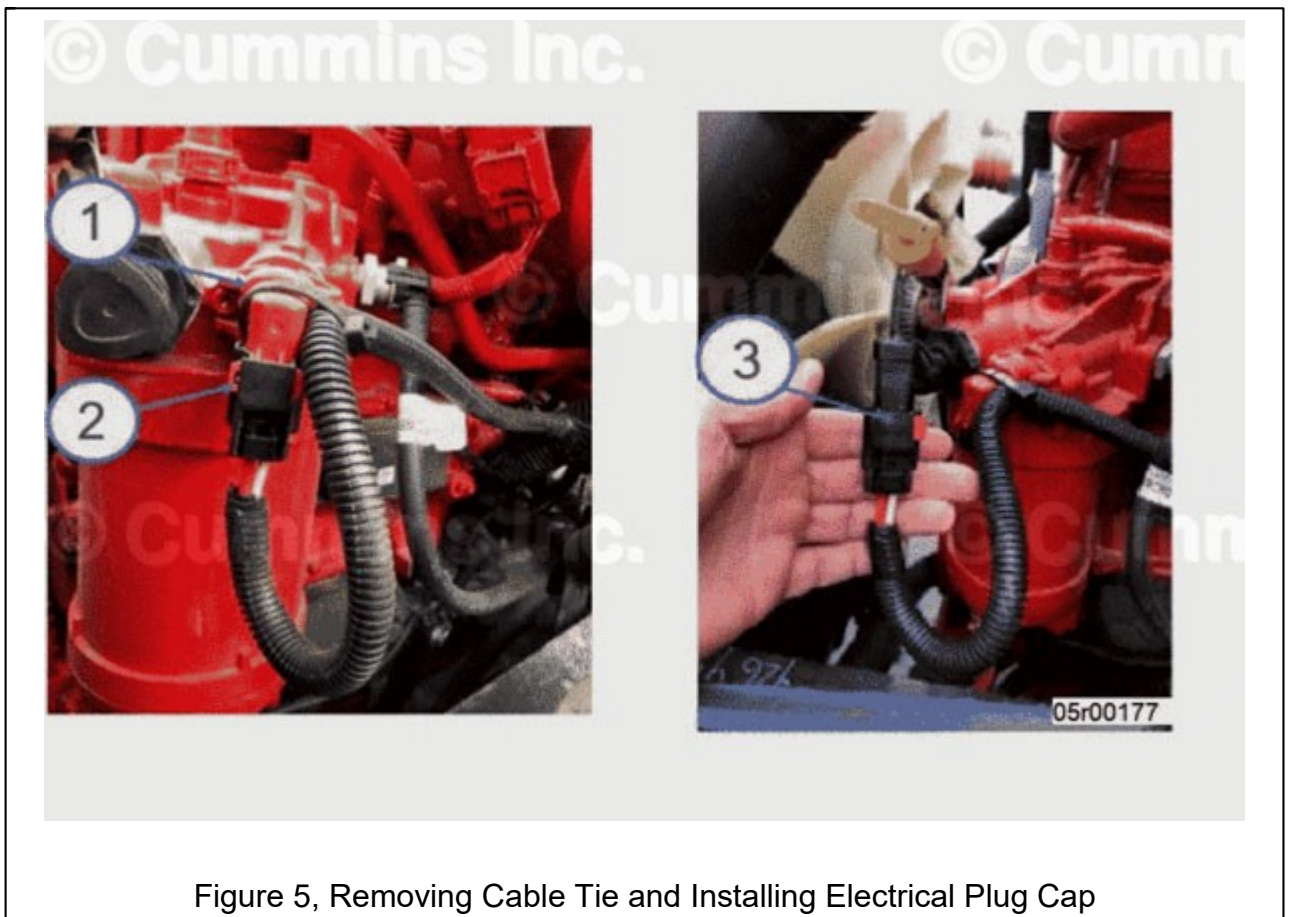

Figure 5, Removing Cable Tie and Installing Electrical Plug Cap
- Remove cable tie that secures the wiring harness to engine fuel heater. See Figure 5.
- Unlock connector by moving red tab to the right and disconnecting from engine fuel heater. See Figure 5.